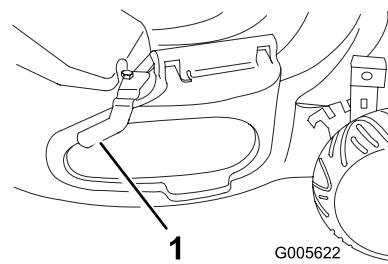

Figure 26
- Remove the bolt and side cover clamp, then replace the bolt in the hole and save the clamp for future use (Figure 26).